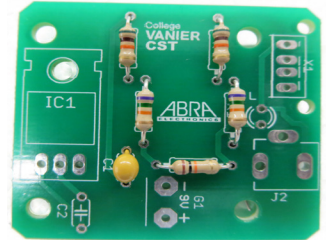

Fig. 4
4. Install C1 (0.33uf) with 334 code as per fig 4. Trim leads with diagonal cutter.